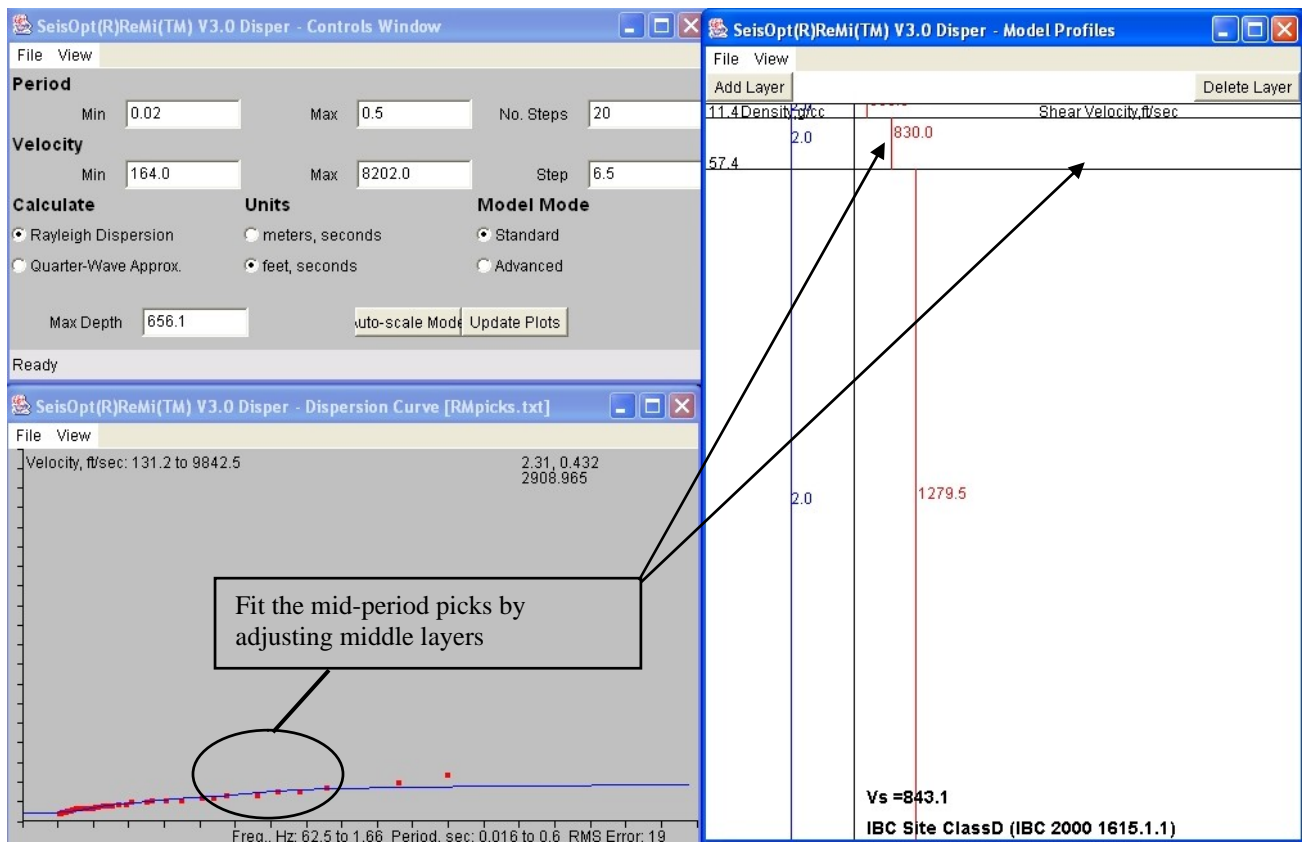

Figure 54b: The next step is try fitting the middle-period picks. Adjust the middle layer velocity and interface depth to achieve this.
10. Once the shorter period (higher frequency) picks are matched, then change the velocities and interface of the second layer until a few middle-period picks at the higher periods (lower frequencies) are matched. Figure 54b shows all three analyses windows from this step.